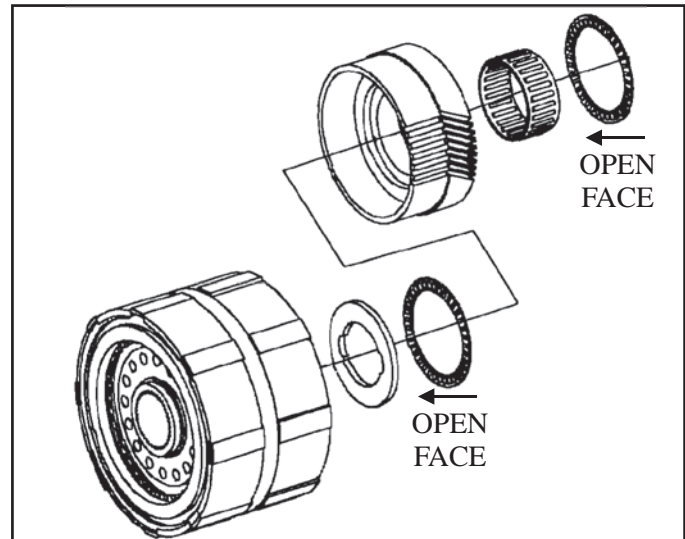

Figure 125
6. Using petroleum jelly, secure the 2nd/Rev and 3rd clutch hub thrust washer onto the clutch housing. The washer goes onto the third gear side of the housing. Make sure the slots on the washer line up with the tangs on the clutch housing (See Figure 125).
7. Using petroleum jelly, secure the double sided needle bearing onto the 3rd drive gear with the open face towards the thrust washer on the housing (See Figure 125).
8. Secure the caged needle bearing with petroleum jelly to the inside race of the 3rd drive gear (See Figure 125)
9. Secure the second double sided needle bearing to the 3rd drive gear with the open face towards the gear using petroleum jelly (See Figure 125).
10. Index the 3rd drive gear to the internally splined fiber plates by rotating the gear back and forth until the gear bottoms out on the thrust washer (See Figure 125).